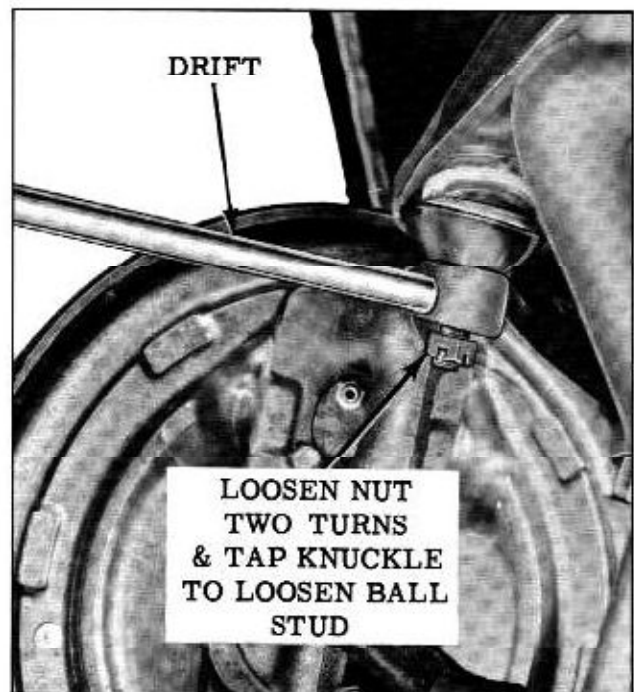

Fig. 5-4 Removing Ball Joint Stud
- b. Loosen the upper and lower joint nuts, but do not remove, then tap knuckle with a brass drift at ball joint stud. (Fig. 5-4) This will loosen stud from steering knuckle.
6. Disconnect the lower control arm ball joint from the steering knuckle. Fig. 5-4 illustrates upper, but same principle applies.
4. With a brass drift tap steering knuckle at ball joint stud, (Fig. 5-4)
3. Disconnect ball joint from knuckle by tapping knuckle with a drift at a stud. (Fig. 5-4)
4. With a brass drift, tap steering knuckle at ball joint stud, this will loosen stud. (Fig. 5-4)